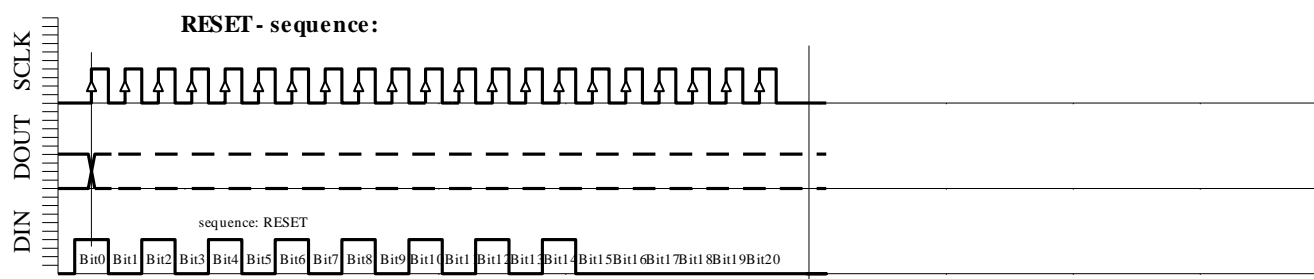

Fig. 6e: RESET sequence (21 bit)
- ✦ RESET sequence (Figure 6e)
The RESET sequence is special as the module in any state recognizes its unique pattern. By consequence, it can be used to restart if synchronization between the microcontroller and the MS5541-30C has been lost. This sequence is 21-bit long. The DOUT signal might change during that sequence (see Fig. 6e). It is recommended to send the RESET sequence before each CONVERSION sequence to avoid hanging up the protocol permanently in case of electrical interference.